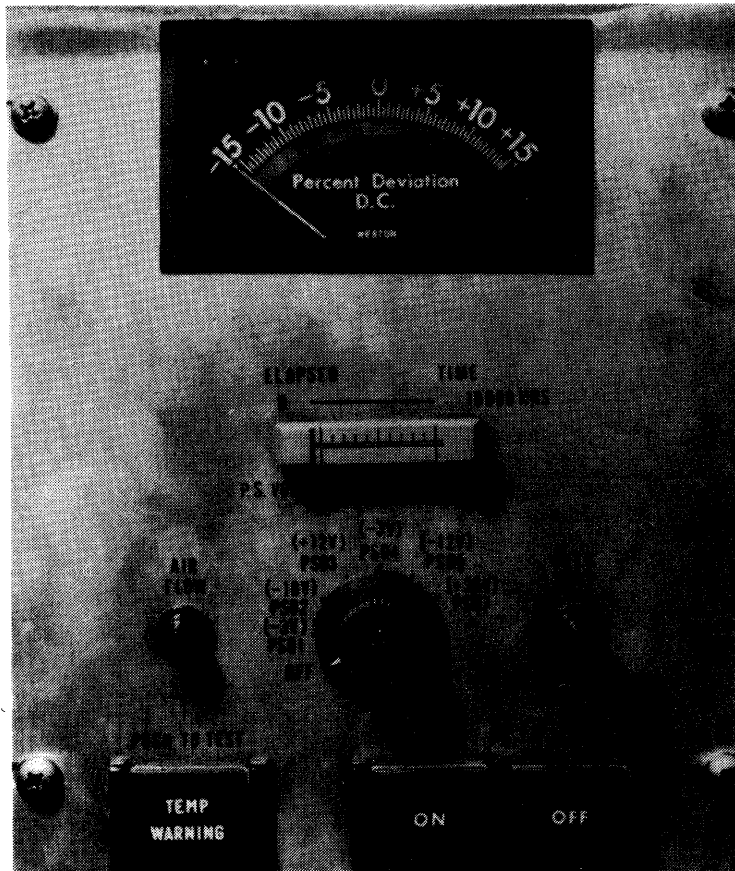

Figure 3-4. Storage DC Power Control Panel
The DC power control panel, shown in Figure 3-4, is located in the upper-right corner of the storage cabinet. It is not accessible with the doors closed. These controls are used to turn DC power on, or off, and to monitor certain conditions within the storage cabinet. The panel components are further described in Table 3-4.
- (2) The following steps are performed at the DC power control panel, see Figure 3-4.
- (1) The following steps are performed at the DC power control panel, see Figure 3-4.